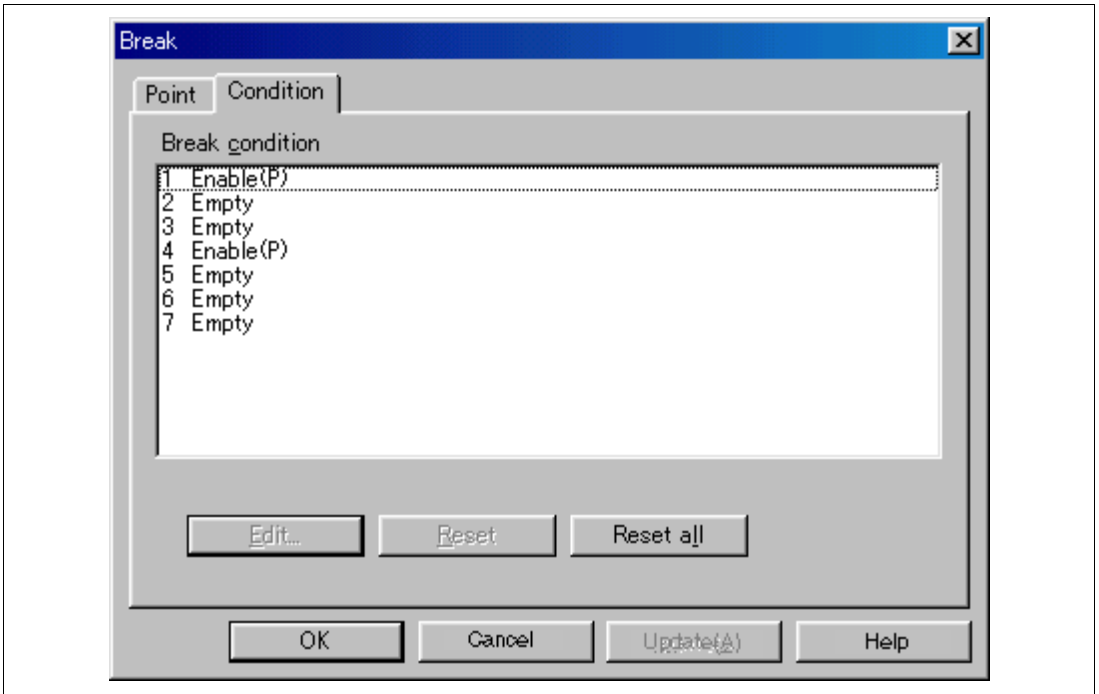

Figure 6.10 [Condition] Page
- Break Condition 1,4 is used as the measurement range in the performance measurement function when (P) is added as shown in figure 6.10. For setting the performance measurement function, refer to section 6.5.7, SH7751R E10A Emulator Useful Functions. This applies when the Break Condition is displayed with the BREAKCONDITION_DISPLAY command in the command-line function. In this case, a break does not occur when Break Condition 1,4 is satisfied.